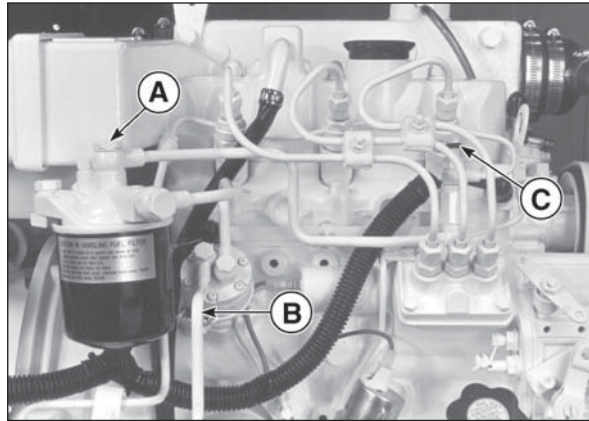

Figure 11: M773LW Fuel System.
2. Loosen bleed bolt "A" (Figure 11) on top of the filter. Pump hand primer "B" on fuel lift pump until pure fuel (no bubbles) escapes from bleed bolt "A". Tighten bleed screw "A".